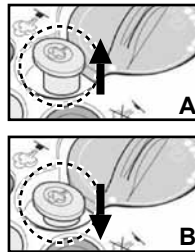

FIGURE 4
**IMPORTANT: Make sure Steam Button is locked in lowered position (FIGURE 4-B) before dry ironing. This will prevent any water from accidentally dripping.**
3. When Heating Indicator Light turns off, press Steam Button. Button will lock into raised position (FIGURE 4-A), and unit will begin emitting steam from steam vents on Ironing Plate.
4. To stop steam flow, press Steam Button again to lock it into lowered position (FIGURE 4-B).